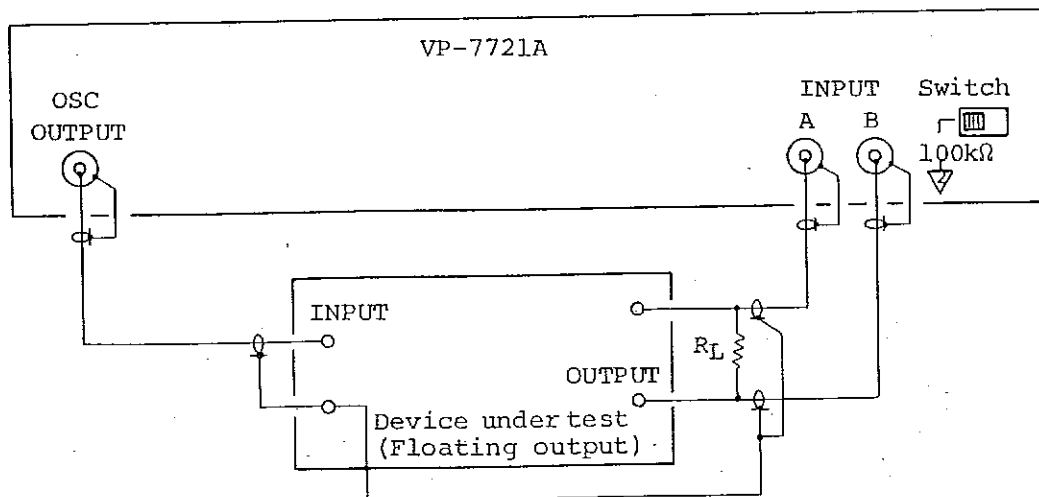
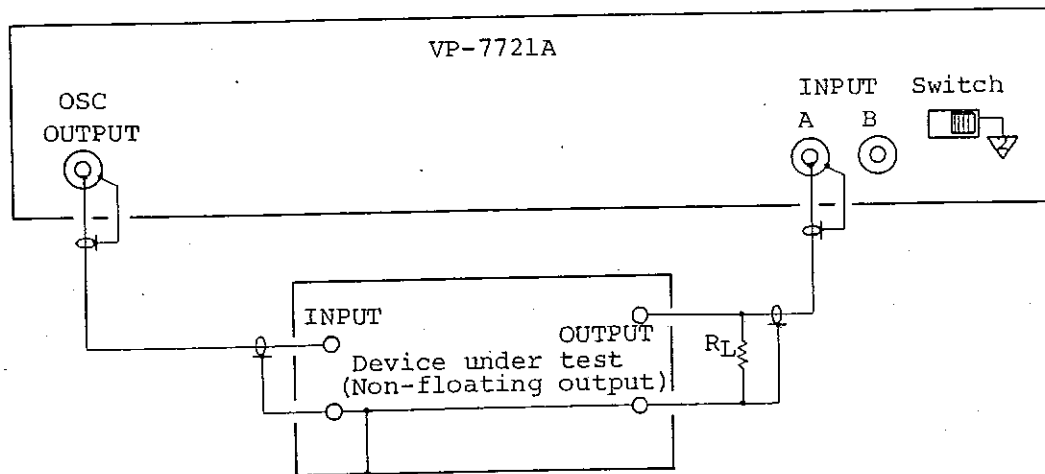
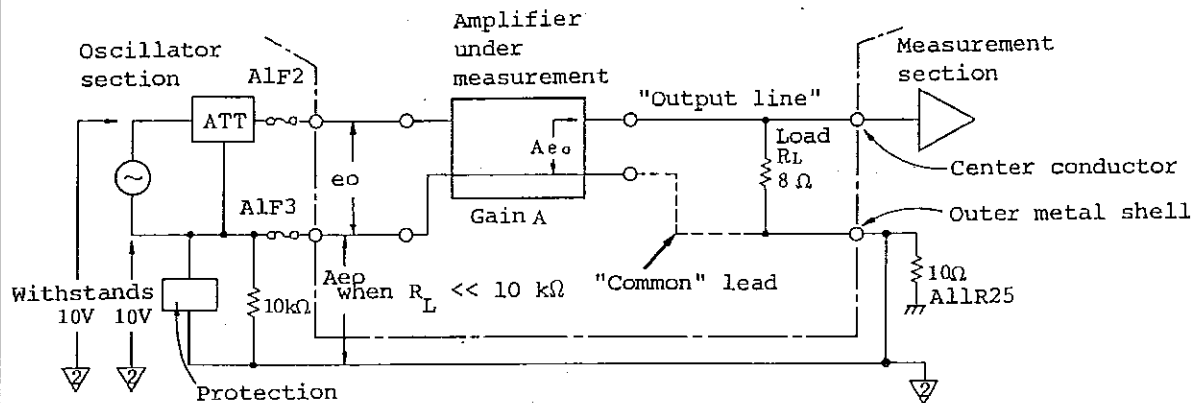

Fig. 4-10 Floating connection
Fig. 4-11 Non-floating connection
Fig. 4-14 Non-floating interconnection
The actual interconnection are made as shown in Fig. 4-10 (Floating) and Fig. 4-11 (Non-floating).
Note 1) Non-floating connection can only be made to the INPUT A connector (Fig. 4-11).
For floating connection, both A and B connectors are used (Fig. 4-10).
Note 2) Be careful not to connect a device with floating output to the VP-7721A set to non-floating arrangement as shown in Fig. 4-11. It may cause either damage to the device or burning out of the 10-ohm resistor, AllR25 within the instrument.
Note 3) A device with non-floating output can be connected to the VP-7721A set to either floating or non-floating arrangement. However, it basically should be set to non-floating arrangement as shown in Fig. 4-11 for more accurate measurement of very low level or distortion. This is because the noise and distortion contents inherent in the amplifiers, A2 and A3 shown in Fig. 4-9 are removed from the signal path in the non-floating arrangement. Tables 2-1 through 2-4 in the Specifications show the differences of the performance.
Non-floating connection as shown in Fig. 4-11 has a possibility of hazard. Fig. 4-14 illustrates the interconnection between an amplifier and the VP-7721A in non-floating arrangement.
If the "Common" lead shown by dotted line in Fig. 4-14 is disconnect under the condition that the amplifier gain A is large and the load R_L is small enough compared with 10 kilohms, the voltage appearing across 10 kΩ (i.e. the voltage between the common side of the oscillator and the chassis) will have the value of Ae_0 .
- (1) Minimize the output power of the amplifier under measurement when interconnection lead wires are connected or disconnected.
- (2) Do not disconnect the "Common" lead in Fig. 4-14 during measurement. If it is required, disconnect "Output line" or connection between the load RL and the VP-7721A prior to the "Common" lead.
- (3) When it is required to provide a measurement fixture, such as signal selector switch, insert it between the load RL and the VP-7721A. If it is essential to insert such a fixture between the amplifier and the load RL, the switching timing should be so arranged that the common side is switched during the disconnected period of the "Output line".
- (4) Never connect a BTL type (balanced, transformer-less type) power amplifier to the input connector in non-floating arrangement. Use the floating connection for this type of amplifier.